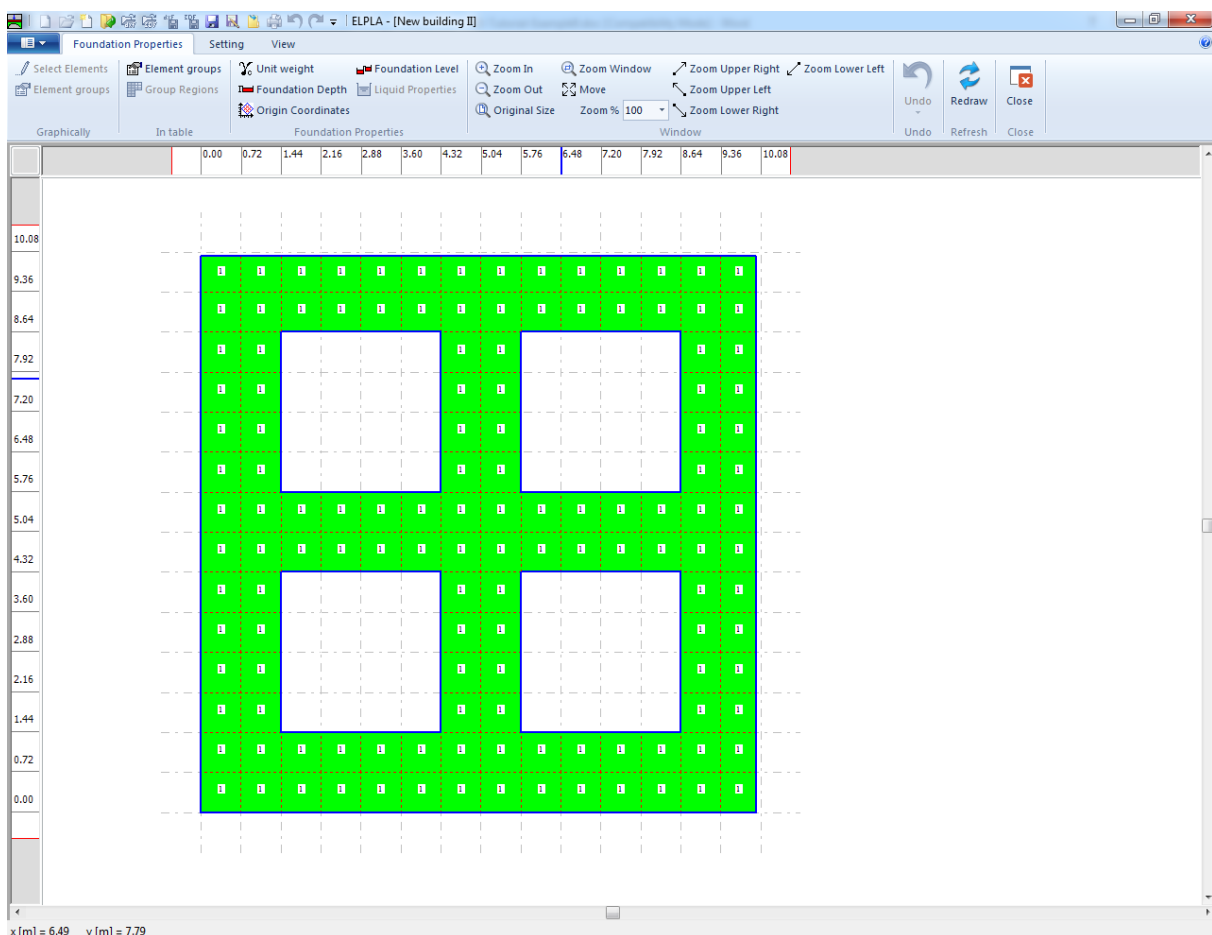
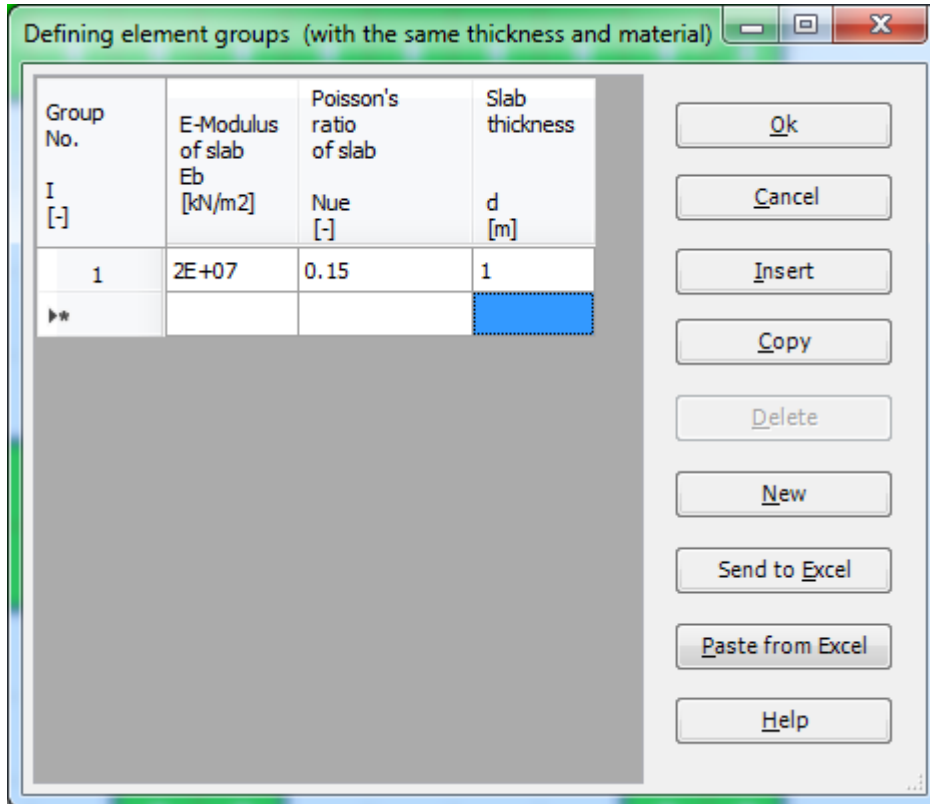
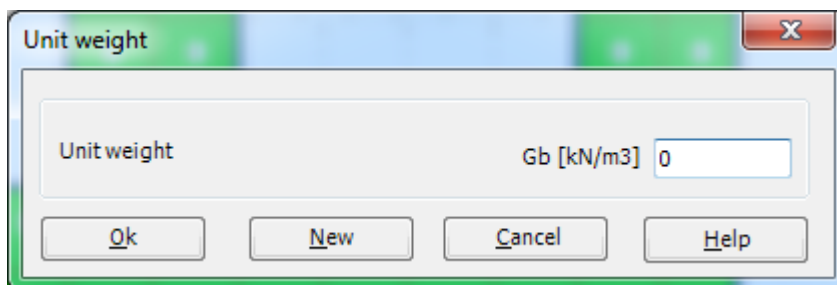

Figure 9.22 "Foundation Properties" Window
Figure 9.23 "Defining element groups" list box
Figure 9.24 "Unit weight of the foundation" dialog box
To define the foundation properties, choose "Foundation Properties" command from "Data" Tab. The following Window in Figure 9.22 appears with default foundation properties. The data of foundation properties for the current example, which are required to define, are foundation material, foundation thickness and foundation level. Any other data corresponding to foundation properties in the program menus are not required. Therefore, the user can take these data from the default foundation properties.
- Choose "Element groups" command from "In table" menu Figure 9.22. The following list box in Figure 9.23 with default data appears. To enter or modify a value in this list box, type that value in the corresponding cell then press
- "Enter" key. In the list box of Figure 9.23, enter E-Modulus of the foundation, *Poisson's* ratio of the foundation and foundation thickness
- Choose "Unit weight" command from "Foundation properties" menu in the window of Figure 9.22. The following dialog box in Figure 9.24 with a default unit weight of 25 [kN/m³] appears. To neglect the self-weight of the foundation in the analysis, type 0 in the edit box "Unit weight"
- Choose "Foundation Depth" command from "Foundation properties" menu Figure 9.22.
- Choose "Save foundation properties" command from "File" menu in Figure 9.22 to save the foundation properties
- Choose "Close" command from "File" menu in Figure 9.22 to close the "Foundation properties" Window and to return to *ELPLA* main window.